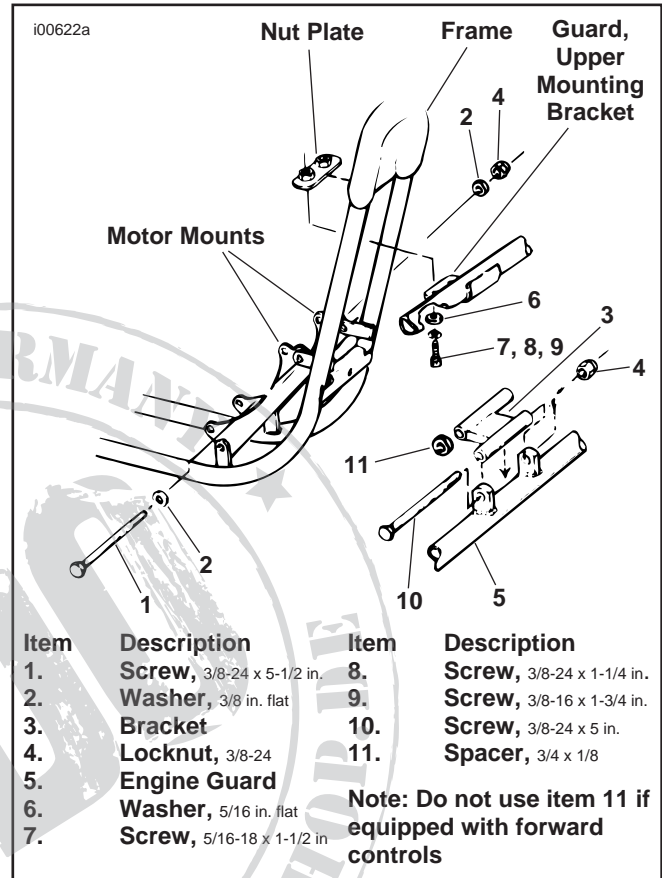

Figure 1. Disassembly/Installation (Alternator Models)
- See Figure 1. From underside of steering head remove screws (7, 8, or 9) and flat washer (6). Discard original screws (7, 8, or 9) and washer (6).
- See Figures 1 and 2. Place washer (2) on 5-1/2 in. long screw (1). Insert screw (1) through one motor mount, through spacer (11) (unless engine guard is being installed on a vehicle equipped with forward controls, in which case DO NOT USE SPACER), through the offset end of bracket (3), and (with large offset toward jiffy stand side of vehicle) through the other motor mount. Place kit supplied washer (2) on end of screw (1) and secure with locknut (4). Be sure bracket does not pinch wiring. On 1986 and later models be sure bracket does not contact oil pressure switch.
- See Figure 1. Position engine guard (5) upper mounting bracket under the steering head.